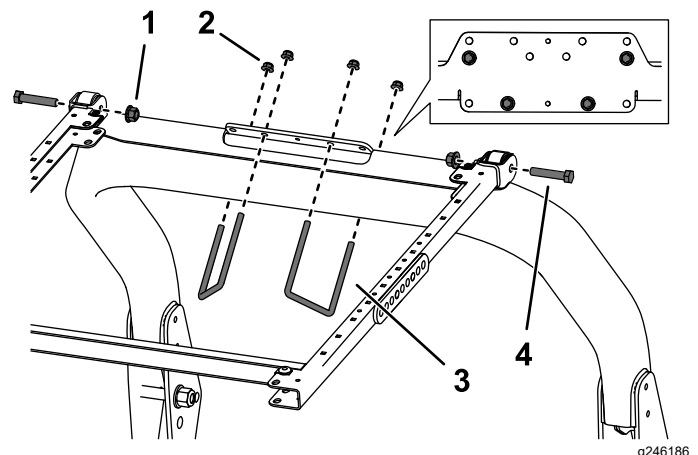

Figure 38
6. Position the ROPS-mount bracket onto the top of the traction unit roll bar (Figure 38). Ensure that the roll bar is centered in the ROPS-mount bracket.
7. Using the mounting holes shown in Figure 38, mount the ROPS-mount bracket to the top of the roll bar with 2 U-bolts (3-1/2 x 5 inches) and 4 flange nuts.